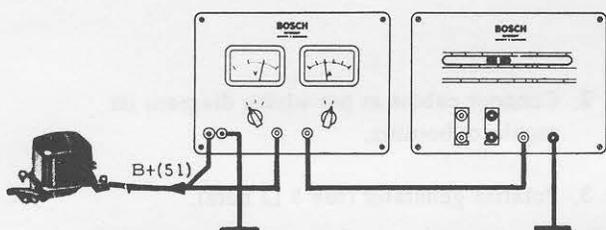

Fig. 6
1. Connect generator lead B+ (up to now insulated) to negative lead of A.M. Connect positive lead of A.M. to terminal B+ on regulator (Fig. 6).